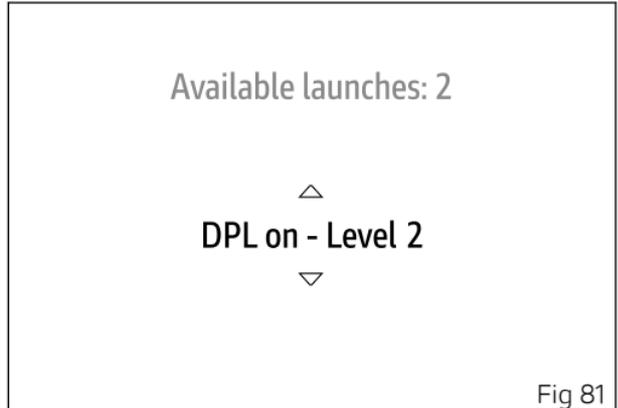

Fig 81
The screen for selecting the level for the assisted start (Fig 81) is displayed. Use buttons (1) and (2) to select the desired level (1, 2, 3) or the "Exit" item. Press the ENTER button (3) for 2 seconds to confirm the selected level.